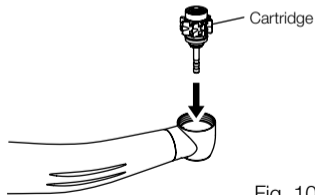

Fig. 10
- ③ Install the cartridge in the head by inserting it vertically. (Fig. 10)